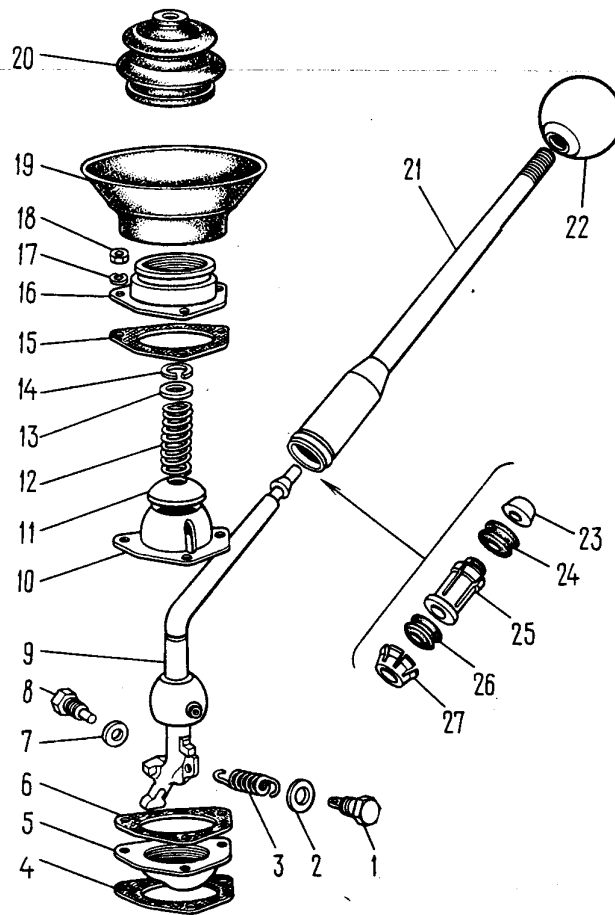

Fig. 3-29. Gearshift Lever Parts:
- remove cup 19 (Fig. 3-29) and boot 20 of the lever, take off lockring 14, washer 13, spring 12 and spherical washer 11;